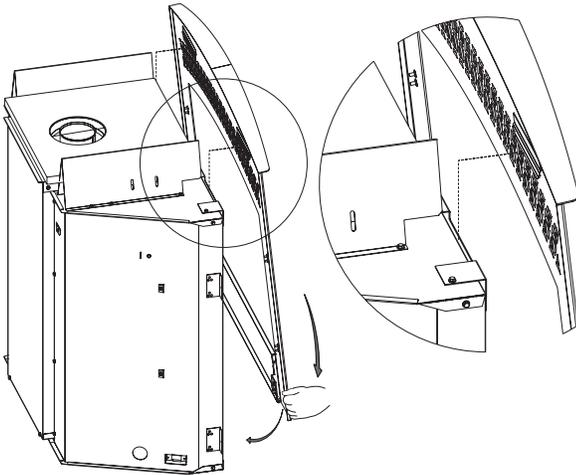

Figure 3
27. If applicable, replace decorative front by hooking front mounting brackets. Be sure to lower front with slight angle to keep ball clasp front scratching the front of appliance. Push in lower portion to lock ball clasp. Replace decorative front doors by aligning hinges over posts. **See Figure 3.**